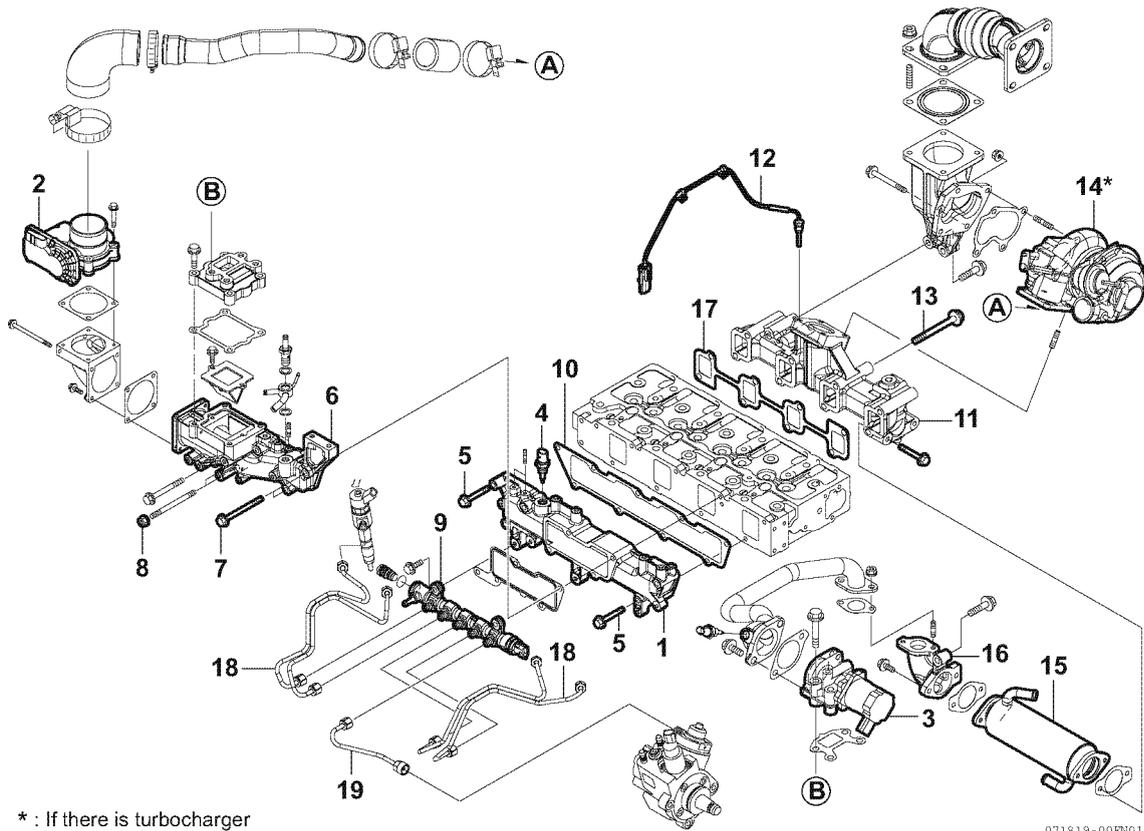

Figure 6-6
10. Remove the high-pressure fuel injection lines (From rail to injector (18, **Figure 6-6**) and from rail to supply pump (19, **Figure 6-6**).
11. Remove the wiring coupler of the intake temperature sensor (4, **Figure 6-6**) of the intake manifold (1, **Figure 6-6**). Remove the intake manifold mounting bolts (5, **Figure 6-6**), and the mounting bolt (7, **Figure 6-6**) and nut (8, **Figure 6-6**) of the intake collector (6, **Figure 6-6**).
Remove the intake collector and the intake manifold as a unit, along with the common rail (9, **Figure 6-6**), intake throttle (2, **Figure 6-6**), and EGR valve (3, **Figure 6-6**). Dispose the exhaust manifold gasket (10, **Figure 6-6**). Cover the sheet part of the rail inlet of which the high-pressure pipe is removed with plastic bags after cleaning the part. Also cover the supply pump side too with a plastic bag.
13. Remove the exhaust manifold mounting bolts (13, **Figure 6-6**), and then remove the turbocharger (14, **Figure 6-6**) (If there is one.), exhaust throttle (If there is one), EGR cooler (15, **Figure 6-6**), and EGR cooler outlet vent (16, **Figure 6-6**), together with the exhaust manifold. Dispose the exhaust manifold gasket (17, **Figure 6-6**).